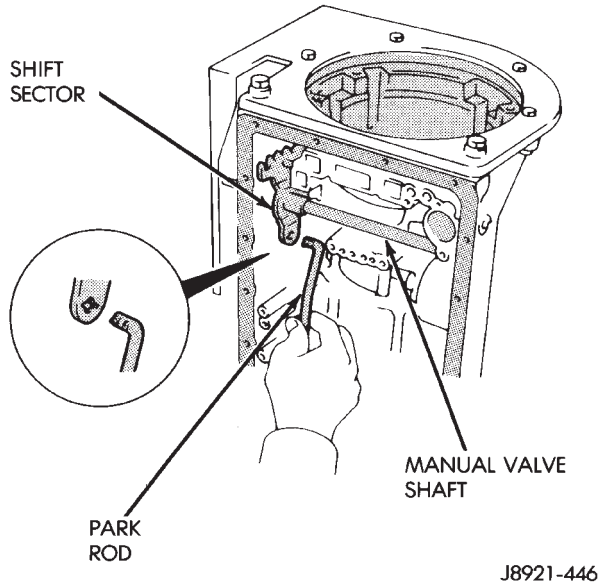
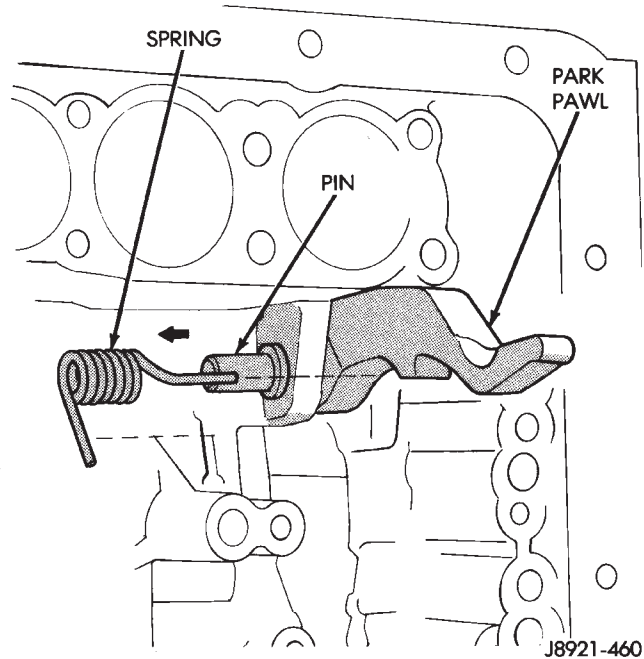

Fig. 77 Removing/Installing Park Rod
Fig. 78 Removing/Installing Park Pawl, Pin And Spring
- (3) Remove park rod from manual valve shaft sector (Fig. 77).
- (4) Remove park rod.
- (5) Remove park pawl, pin and spring (Fig. 78).